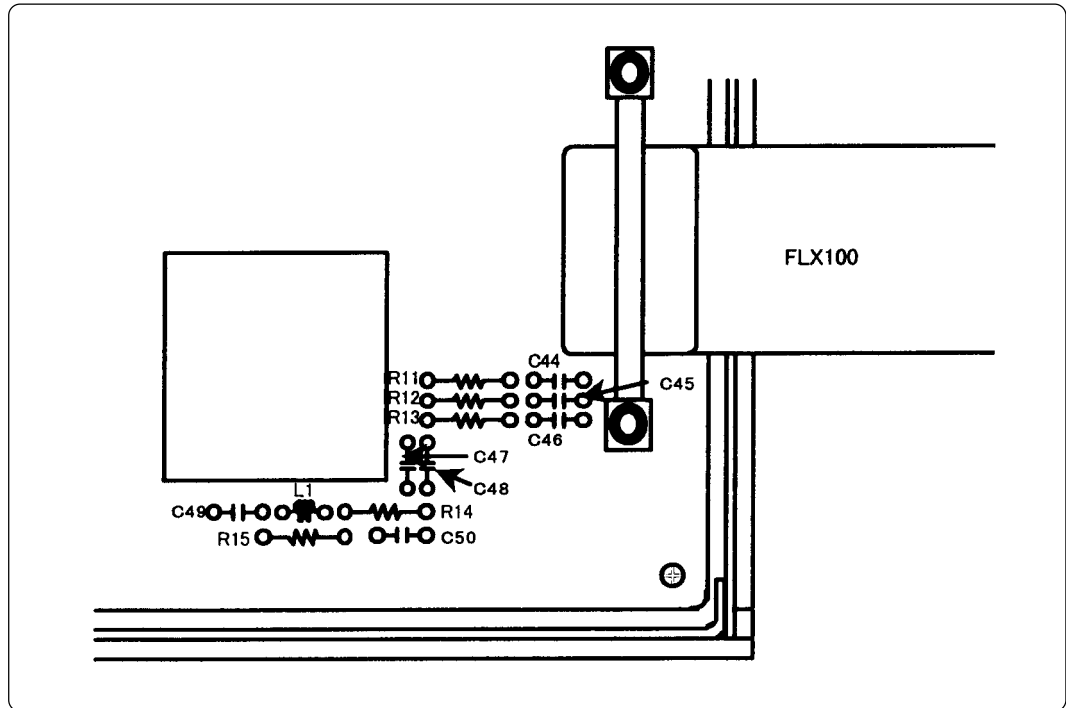
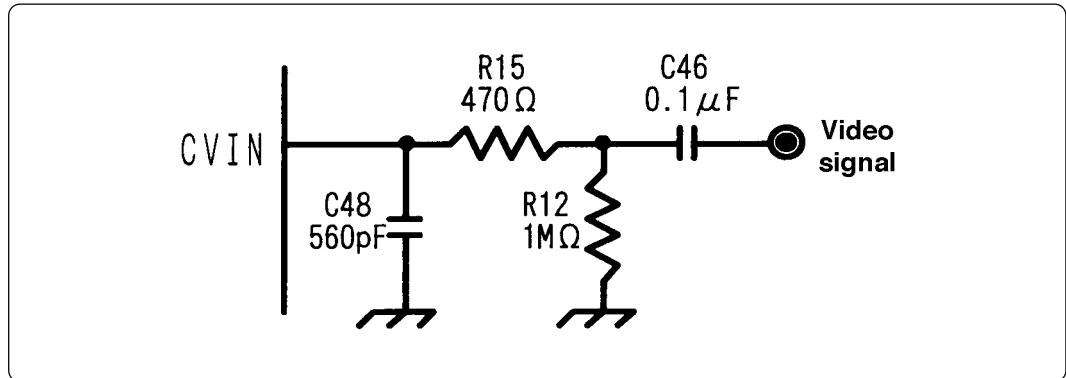

Figure 3.8 Position of each part
Figure 3.9 Signal circuits of CVIN pin
With this product, the parts used for the data slicer and OSD clock circuit are attached by sockets for replacement. Figure 3.8 shows the position of each part used for the data slicer and OSD clock circuits, and Figures 3.9 to 3.12 show the circuit diagram and the constants of board-mounted parts.
(1) Figure 3.9 shows the numbers of parts which are connected to the CVIN pin, the constants of parts and the connection circuits.